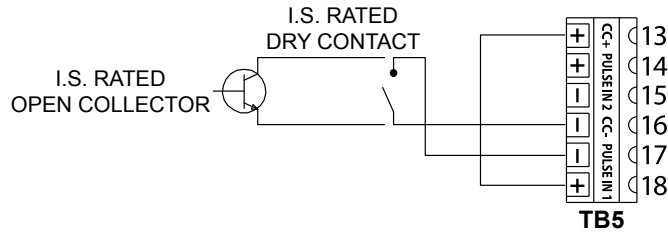

Figure 2.9—Pulse input wiring diagram for use with an I.S.-rated dry contact or open collector input
4. If a positive displacement meter or other pulse-generating device will be used to indicate volume, connect the appropriate switch or pulse-generating device to TB5. See Figures 2.9 through 2.12, page 14.
If a pulse from a dry contact or open collector switch or from a positive displacement meter or turbine/ pre-amplifier will be used to indicate volume, connect the switch or device to the Pulse Input 1 terminals as shown in Figures 2.9 through 2.12. Pulse Input 1 provides an optically isolated input for high-amplitude pulse (frequency) signals and can accept signals from 3V to 15V.